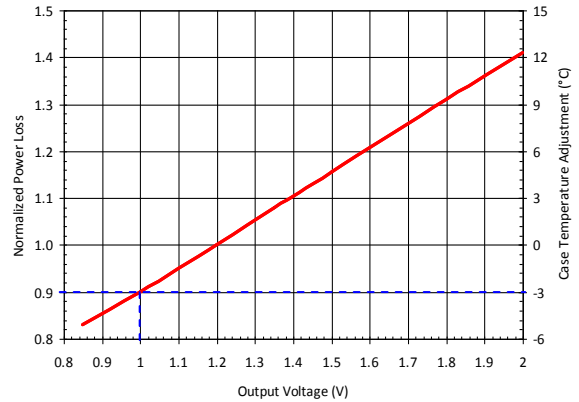

Figure 11: Normalized Power Loss vs. Output Voltage
- 3) Determine the output voltage normalizing factor with  $V_{OUT}=1V$ , which is 0.90 based on the dashed lines in Figure 11.